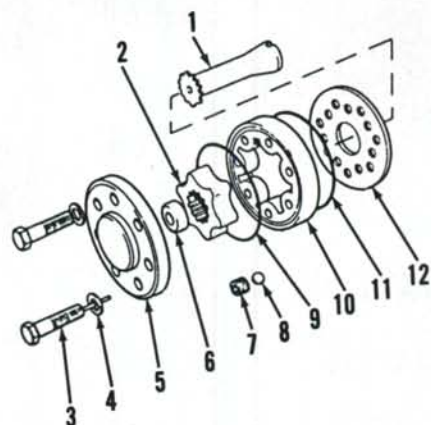
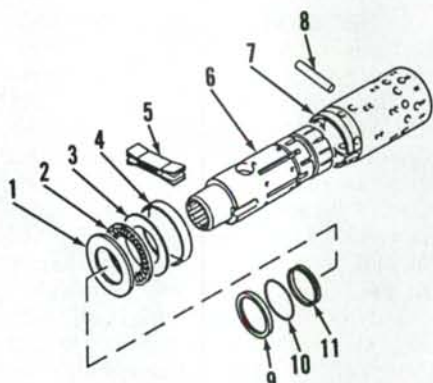

Fig. 52—Exploded view of steering valve rotor set, drive shaft and related parts.
Fig. 53—Exploded view of steering valve spool, sleeve, bearings and seals.
taining end cap (5—Fig. 52). Separate end cap, stator (10), rotor (2), spacer (6), valve plate (12) and drive shaft (1) from valve body. Remove bushing (7) and check ball (8). Remove spool (6—Fig. 53) and sleeve (7) assembly, thrust bearing assembly, "O" ring (10) and backup ring (11) and oil seal (9) from body. Remove pin (8), retaining ring (4) and centering springs (5) from sleeve. Separate spool from sleeve.
Install centering spring retainer ring (4—Fig. 53) and pin (8). Install chamfered washer (3) onto spool with chamfered face towards sleeve. Install thrust bearing (2) and washer (1) onto spool.
Install check ball (8—Fig. 52) and bushing (7) in body. Install drive shaft
Install spacer (6—Fig. 52) in rotor. Install end cap (5) and retaining bolts using new seal washers (4). Make certain bolt with pin (3) is installed in hole over check ball (8). Tighten bolts to 27 N·m (20 ft.-lbs.) torque.